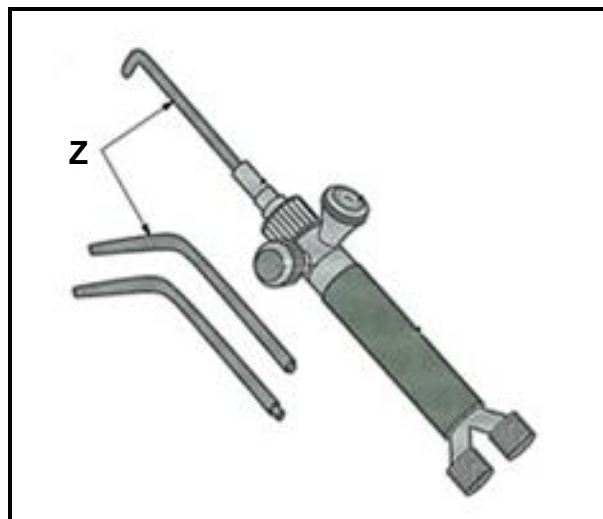

FIGURE 4.4
- 4.4 FIGURE 4.4 below shows a welding torch. Identify part **Z**.